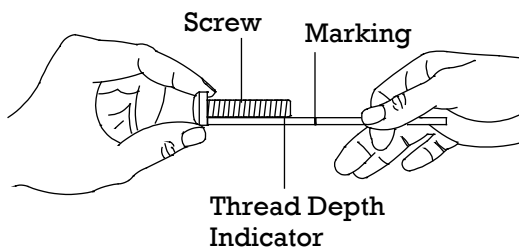

Figure 2
- Step 4.** The screw length must not bypass the marking. Select another screw size (Figure 2 and 3), until you find one that comes closest to your mark without going past.